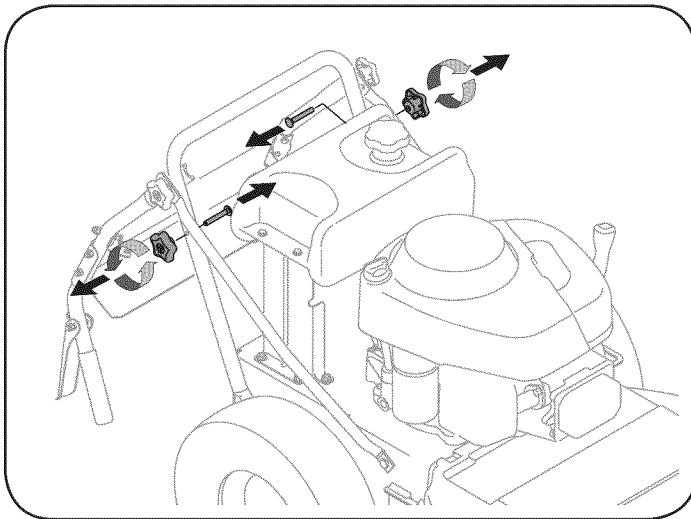

Figure 1
1. Remove lower star knobs and carriage screws from lower handle, Figure 1.